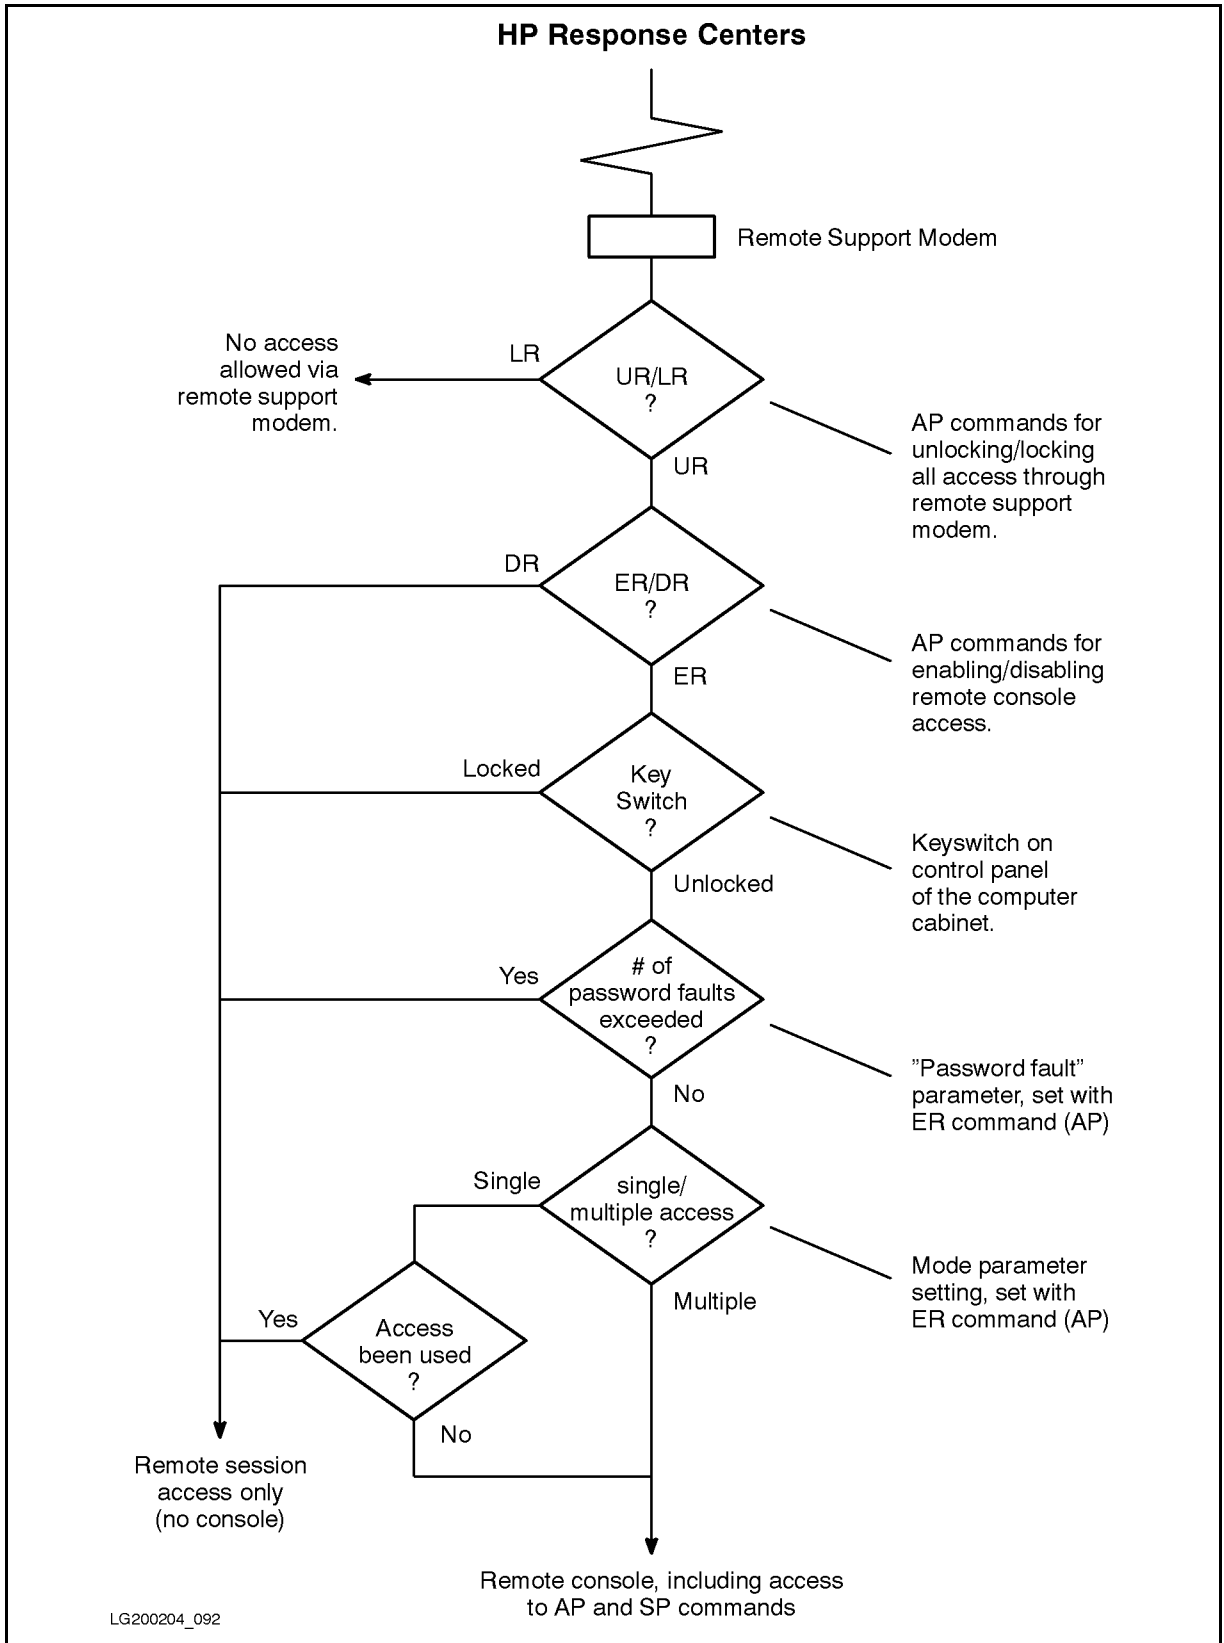

Figure 2-4. Controlling Access Through the Remote Support Modem
99x/T-Class Systems provide several levels of security for controlling access to the Remote Support Modem and the remote console. See Figure 2-4.
1. Study Figure 2-4 to determine the controls appropriate for your site. (Recommended settings for MPE/iX with Predictive Support: UR, ER, single access mode, set a password.)